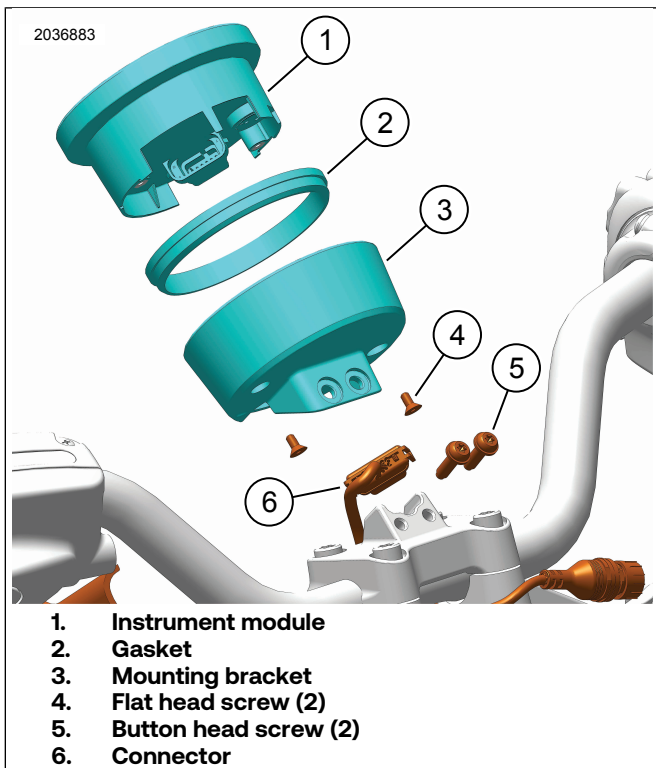

Figure 4. Round Gauge
- See Figure 4. Remove two button head screws (5).
- Remove two flat head screws (4).
- Remove IM (1) from mounting bracket (3).
- Disconnect wire harness connector (6).
- Remove gasket (2). Replace if needed.
- See Figure 4. Assemble IM, gasket and mounting bracket.
- Install gasket (2) on IM (1).
- Route wire harness connector (6) through back of mounting bracket (3).
- Connect wire harness connector (6) to IM.
- Install IM (1) assembly into mounting bracket (3).
- Install two flat head screws (4). Tighten.